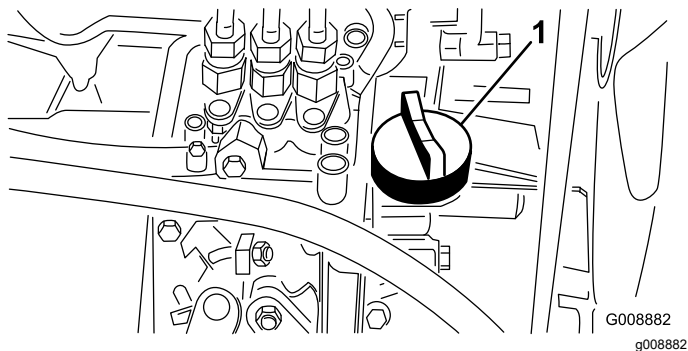

Figure 29
4. If the oil level is low, remove the oil-fill cap (Figure 29) and gradually add small quantities of oil, checking the level frequently, until the level reaches the Full mark on the dipstick.